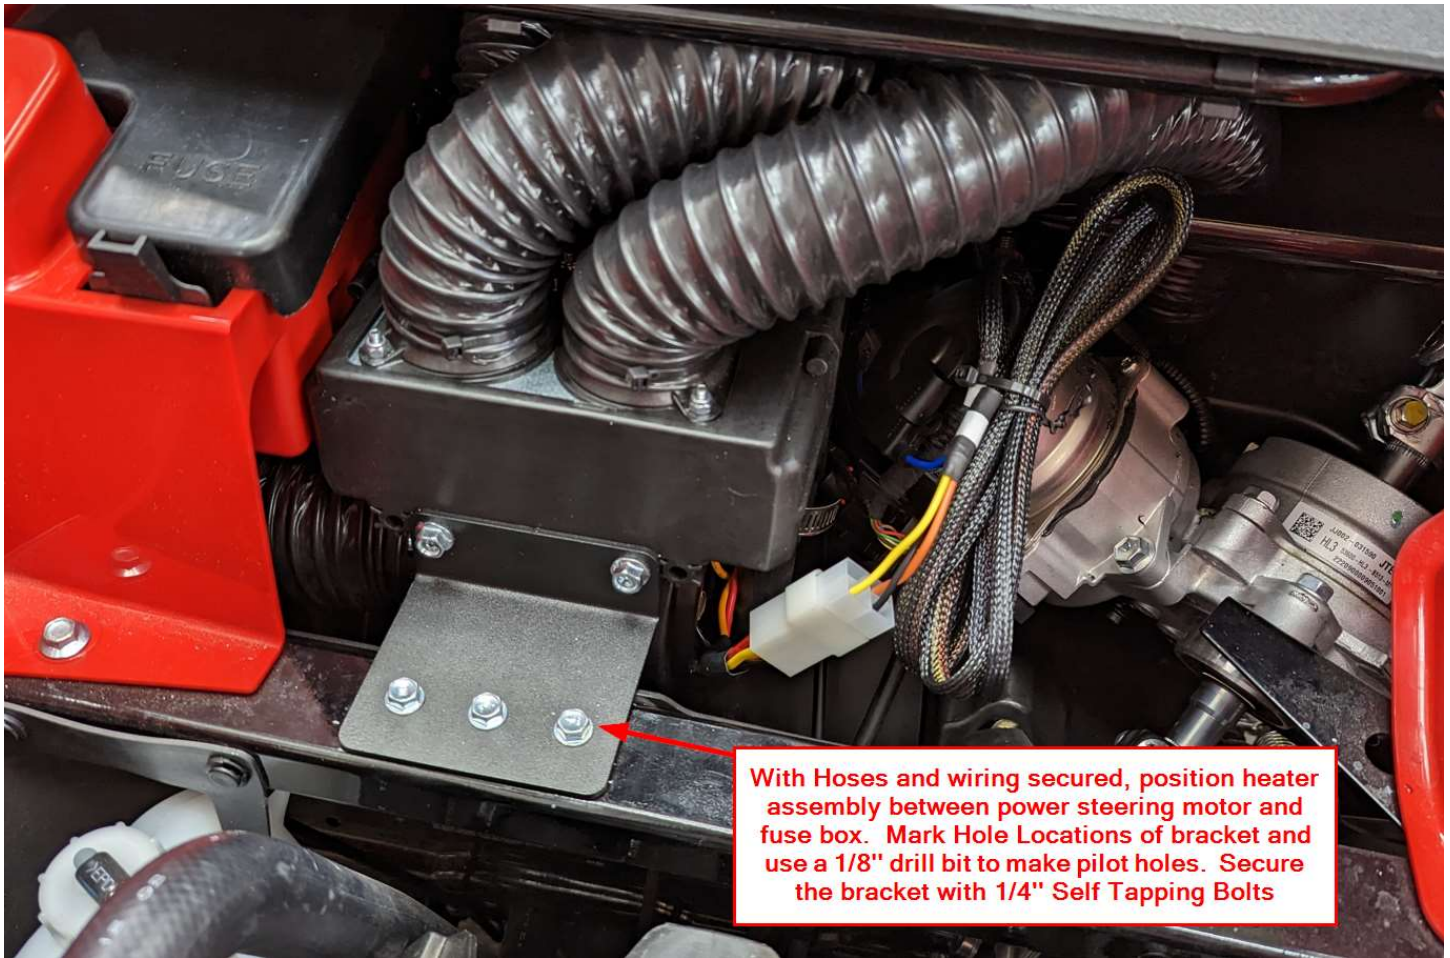

Figure 19
- f. Position the heater between the Passenger Side plastic hood and Power Steering Motor as shown in Figure 19. Use a 1/8" Drill bit to pilot the hole centers. Then use the 1/4" Self Tapping Serrated Flange Screws to secure the Heater.